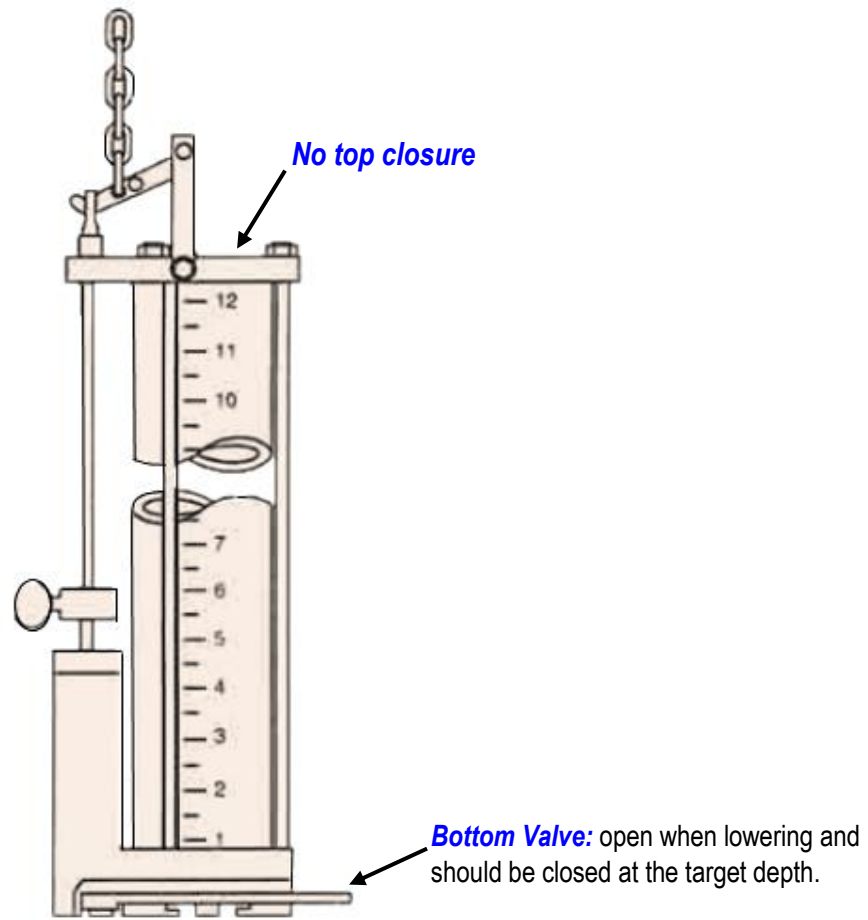

Figure 2
- 4.2.2.1 **Thief Method.** This type of sampler contains a cylindrical tube with no top closure and a closing valve at the bottom. The sampler should be lowered to the tank with the bottom valve open. When the sampler reached to the desired depth, the bottom valve should be closed. Then the sample is gently pulled out and transferred to a container. Figure 2 shows an acceptable type of Thief sampler.